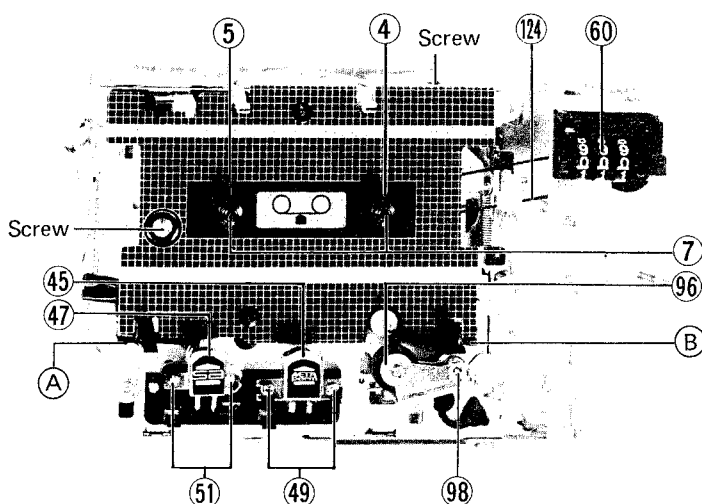

Fig. 10
## A. Pinch roller arm ass'y (96) (Fig. 10)
1. Remove E-ring (98).
## B. Heads (Fig. 10)
## C. Cassette plate (Fig. 10)
2. To remove the cassette plate, hold upper side on the (A) and (B) points.
## D. Tape counter (60) (Fig. 10)
1. Remove the counter belt (124).
## E. Reel disk ass'y (Fig. 10)